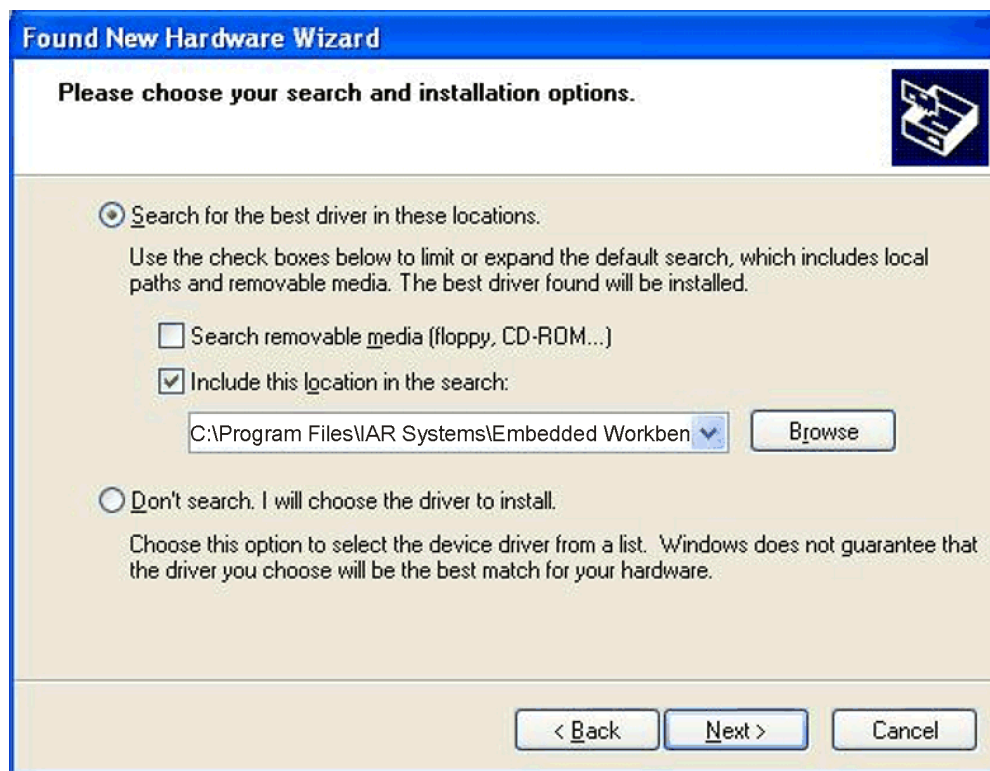

Figure E-3. Windows XP Driver Location Selection Folder
6. Browse to the folder where the driver information files are located (see Figure E-3). On a default installation the files are located in the following directory: